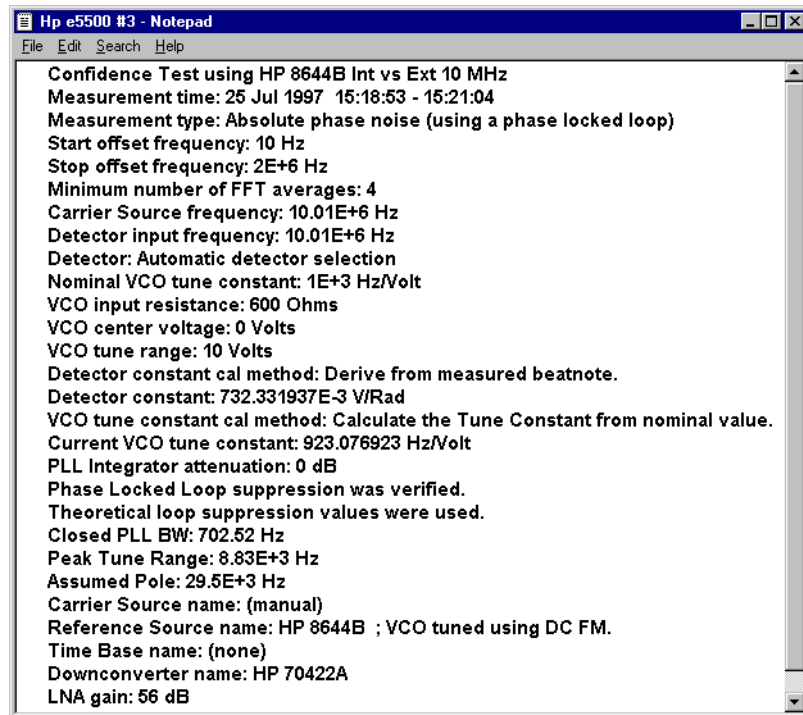

Figure 5-40 Parameter Summary
- 2 The **Parameter Summary Notepad** dialog box appears. The data can be printed or changed using standard Notepad functionality. See Figure 5-40.